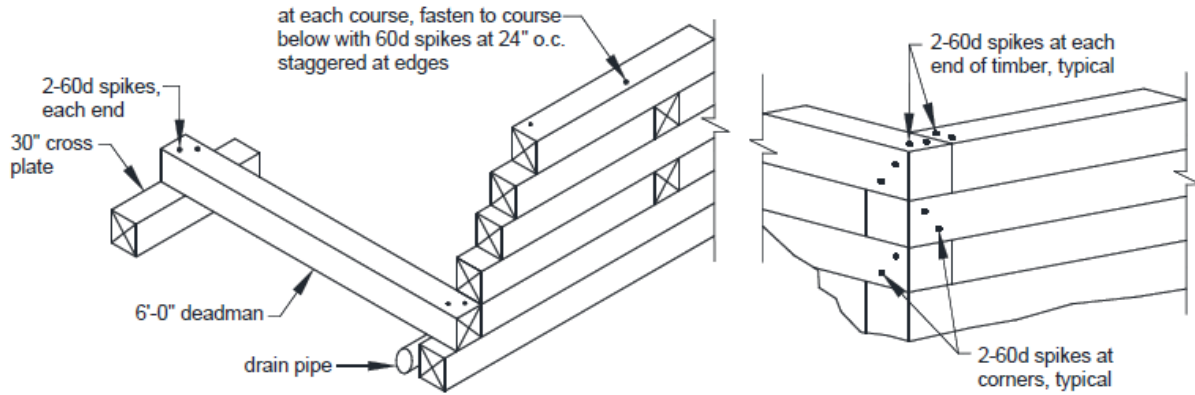

FIGURE 2: TYPICAL FASTENERS FOR TIMBER RETAINING WALLS
**Wall construction.** The construction of a timber retaining wall shall conform to the requirements shown in Figure 1. Deadmen shall be placed at 8 feet on center. Deadmen and cross plates shall be constructed as shown in Figure 2. Deadmen are not required in the top course or bottom course below grade.
**Fasteners and connections.** Each 6x6 member shall be secured at each end with 2-60d spikes driven vertically into the member below. Corners shall be secured with 2-60d spikes and driven horizontally. See Figure 2 for more information.